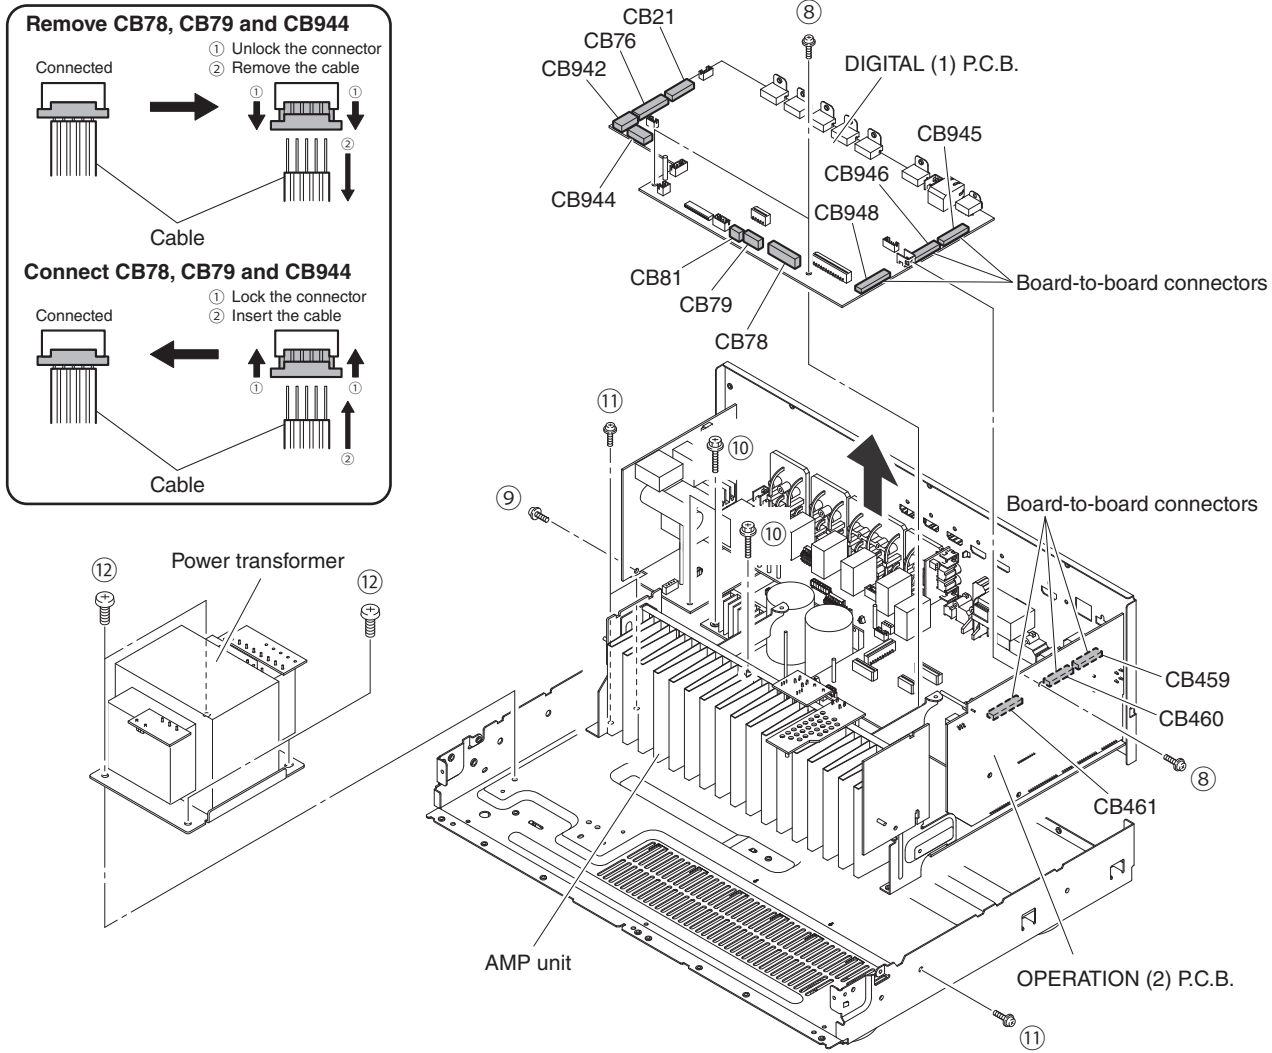

Fig. 2
- Remove 3 screws. (8). (Fig. 2)
- Remove CB21, CB76, CB81 and CB942. (Fig. 2)
- Unlock and remove CB78, CB79 and CB944. (Fig. 2)
- Remove the DIGITAL (1) P.C.B. which is connected directly to the OPERATION (2) P.C.B. with board-to-board connectors. (Fig. 2)
- Remove screw (9), 3 screws (10), 3 screws (11) and 4 screws (12). (Fig. 2)
- Remove the AMP unit together with the power transformer. (Fig. 2)